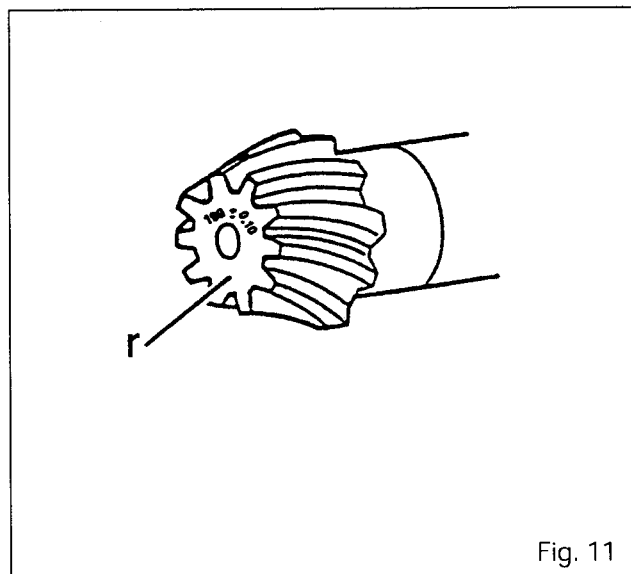

Fig. 11
**E:** Thickness of bearing (9), (10)
**r:** Actual dimension marked on the drive pinion (Fig. 11). This may be a positive or negative value (to be added to or subtracted from the nominal dimension d).